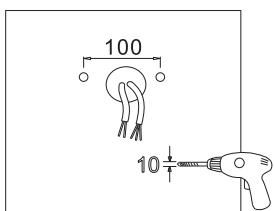

Figure 7
2. YOKE MOUNTING (YM)
Step 1: Drill holes on the wall as shown. (Figure 7)